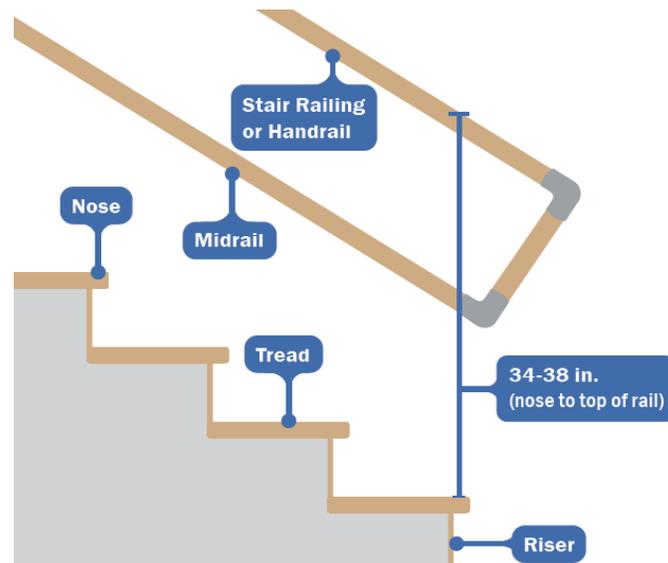

Figure 5. Specifications for stair railing
- Have a top rail 34–38 in. above the nose of the stair treads (Figure 5)